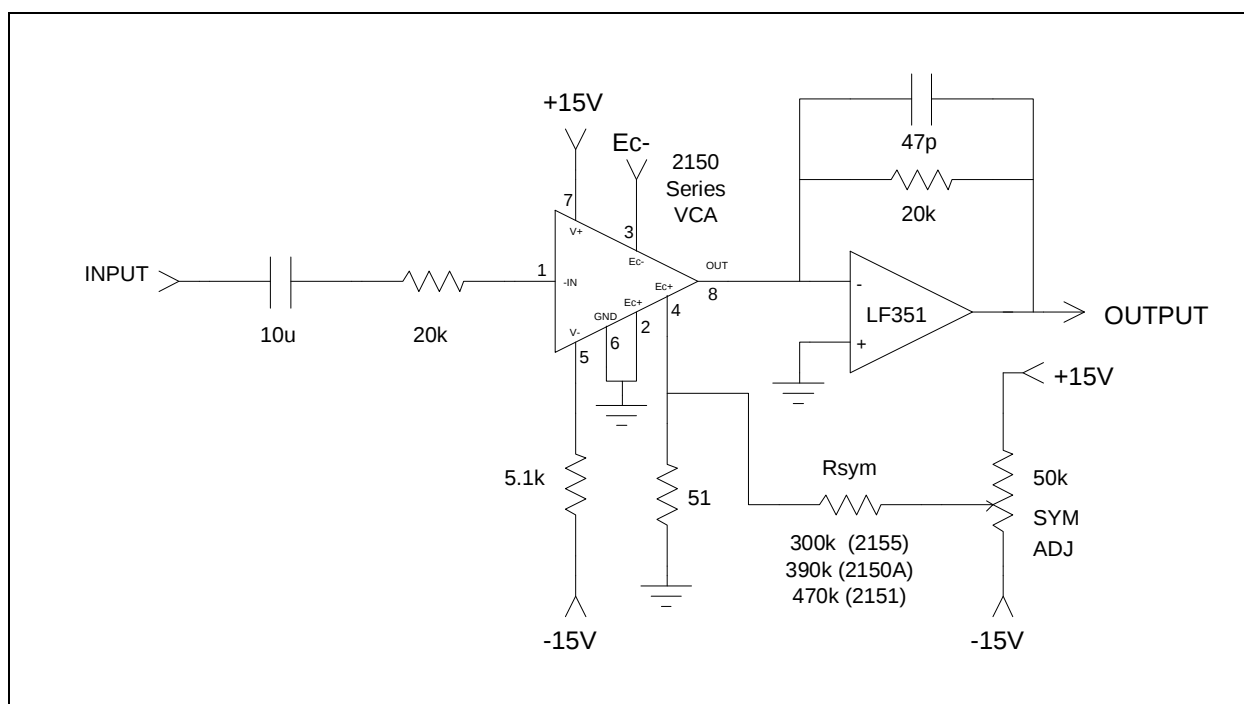
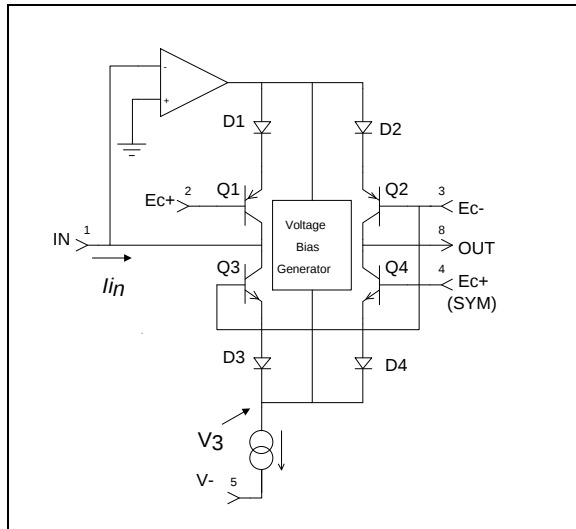
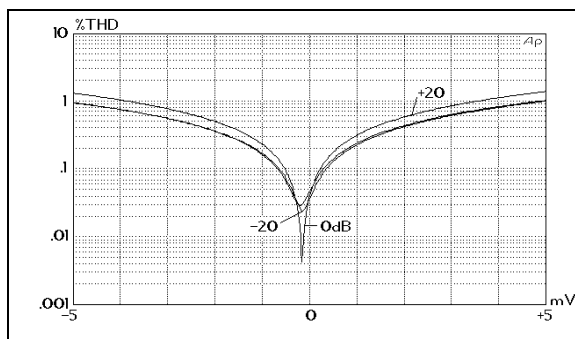
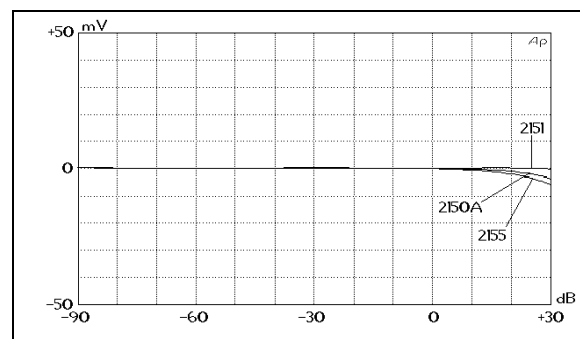

Figure 3. Typical Application Circuit
Figure 6. Simplified Internal Circuit Diagram
Figure 8. Typical THD Versus Symmetry Voltage
Figure 9. DC Offset Vs. Gain, After Symmetry Adjustment
2. Unless otherwise noted, T_A = 25°C, V_{CC} = +15V, V_{EE} = -15V. Test circuit is as shown in Figure 3. SYMADJ is adjusted for minimum THD @ V_{in} = 1 V, 1 kHz, 0 dB gain.
Figure 6 presents a considerably simplified internal circuit diagram of the IC. The ac input signal current flows in pin 1, the input pin. The internal op amp works to maintain pin 1 at a virtual ground potential by driving the emitters of Q1 and (through the *Voltage Bias Generator*) Q3. For positive input currents (I_{in} defined as flowing into pin 1), the op amp drives the emitter of Q1 negative, turning off its collector current, while simultaneously driving the emitter of Q3 nega-
In typical applications (see Figure 3, Page 3), pin 4 is connected to a voltage source at ground or nearly ground potential. Pin 8 is connected to a virtual ground (usually the inverting input of an op amp with negative feedback around it). With pin 4 near ground, and pin 8 at virtual ground, the voltage at the cathodes of D3 and D4 will cause an exponentially-related current to flow in D4 and Q4, and out via pin 8. A similar equation governs this behavior:
A quiescent bias current in the core transistors is established by the *Voltage Bias Generator* shown in Figure 6. This current acts like crossover bias in the output stage of a complementary class AB power amplifier, smoothing the transition between turning on the top (PNP) pair and the bottom (NPN) pair of transistors in the core. This lowers distortion greatly at some cost to noise performance, as the current noise of the core transistors (which run at approximately 20 μ A) is the dominant noise source in the 2150 Series VCAs.
The monolithic construction of the devices assures relatively good matching between the paired transistors, but even small V_{BE} mismatches can cause unacceptable asymmetries in the output. For this reason, the bases of Q1 and Q4 are brought out separately to pin 2 and pin 4, respectively. This allows a small static voltage differential to be applied to the two bases. The applied voltage must be set to equal the sum of the V_{BE} mismatches around the core (*which varies from sample to sample*). Figure 3 (Page 3) includes a typical circuit to apply this symmetry voltage. R_{SYM} controls primarily even-order harmonic distortion, and is usually adjusted for minimum THD at the output. Figure 8 plots THD vs. the voltage between pins 2 and 4 (the two E_{C+} ports) for various gain settings of a typical part.
vent such dc terms, ac input coupling is strongly recommended. A plot of typical output offset voltage versus gain for the circuit of Figure 3 is shown in Figure 9. (The LF351's offset was adjusted to 0 V for this plot.)
The size of the current source at the bottom of the core (Figure 6, Page 4) is programmed externally via I_{SET} , which is normally determined by a resistor from pin 5 to V_- . The voltage at pin 5 is typically -2.7 V. I_{SET} divides into two portions: approximately 400 μ A is used for internal biasing, and the rest is available for the current source at the bottom of the core. I_{SET} should therefore be 400 μ A larger than the total of the peak input and output signal currents.
The input pin (pin 1) is a virtual ground with negative feedback provided internally (see Figure 6, Page 4). The input resistor (shown as 20 k Ω in Figure 3, Page 3) should be scaled to convert the available ac input voltage to a current within the linear range of the device. (Peak input currents should be kept under 1 mA for best distortion performance.) An additional consideration is stability: the internal op amp is intended for operation with source impedances of less than 30 k Ω at high frequencies. For most audio applications, this will present no problem.
The output pin (pin 8) is intended to be connected to a virtual ground node, so that current flowing in it may be converted to a voltage (see Figures 3, 14, & 15). Choose the external op amp for good audio performance. The feedback resistor should be chosen based on the desired current-to-voltage conversion constant. Since the input resistor determines the voltage-to-current conversion at the input, the familiar ratio of R_f/R_i for an inverting op amp will determine the overall voltage gain when the VCA IC is set for 0 dB current gain. Since the VCA performs best at settings near unity gain, use the input and feedback resistors to provide design-center gain or loss, if necessary.
symmetry voltage ($<\pm 2.5$ mV) to correct for V_{BE} mismatches within the VCA IC. For this purpose, the 2150 series devices were designed for optimum performance with an impedance of approximately 50Ω at pin 4. A trim pot is used to adjust the voltage between pin 4 and pin 2 as shown in Figure 3, Page 3. For supply voltages other than shown, scale R_{SYM} to provide the required adjustment range.